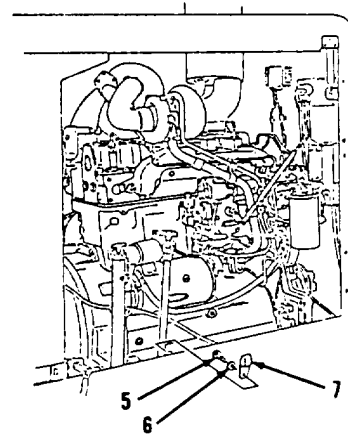

Figure 11-3.
16. Install clip (7), washer (6) and bolt (5, Figure 11-3) on right side of engine compartment.